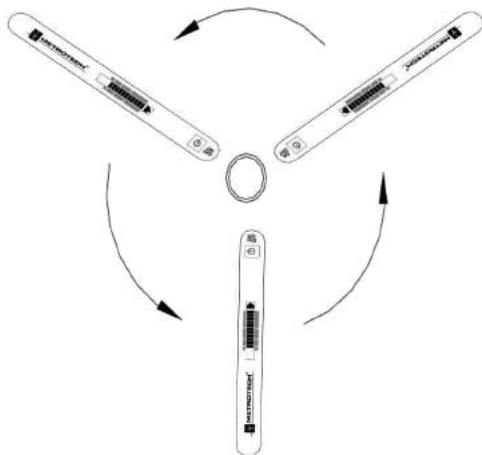

Figure 7-2: Fault Confirmation
- Place the other spike in the ground at the fault site and repeat the process. The arrow should always point inward, toward the fault. See Figure 7-2.